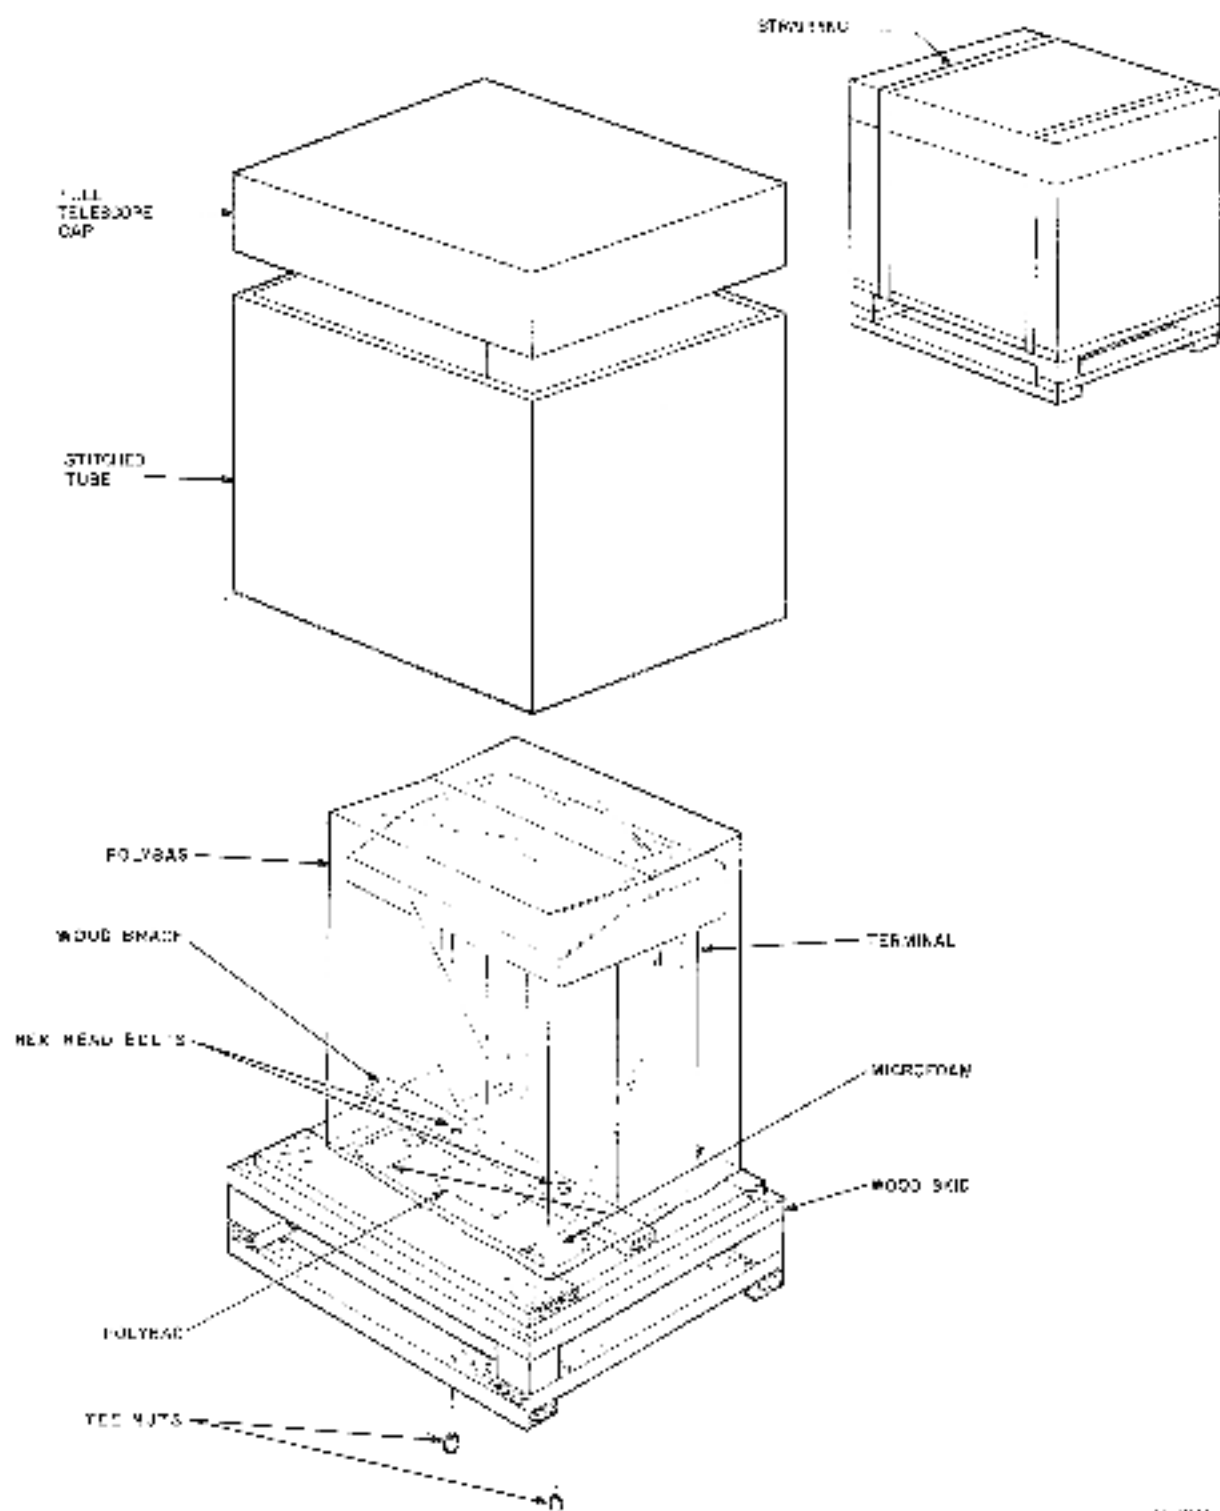

Figure 3-2 LSI20 Packaging
3. Remove all shock-absorbing material and packing from around the LS120 (Figure 3-2).
3. Pack the LS120 as shown in Figure 3-2.